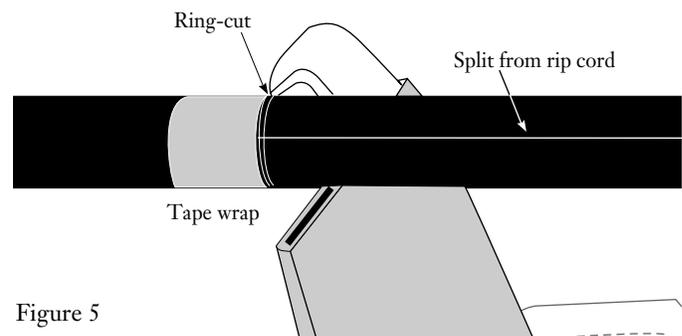

Figure 5
4.6 Taking care not to cut through the GRP rods, use the hook blade knife to make a *shallow* ring cut through the black outer sheath at the tape mark (Figure 5).